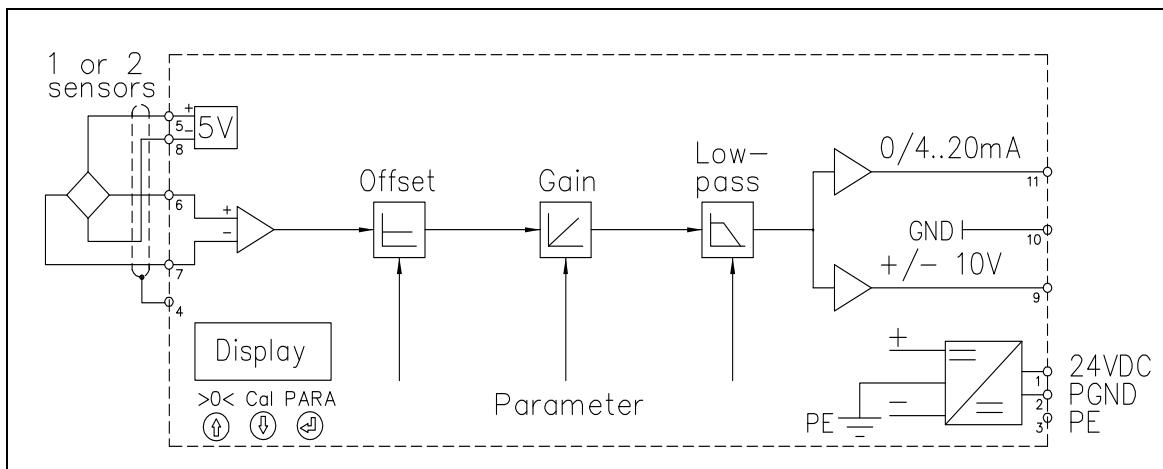

Fig. 1: Block diagram EMGZ 310
2. Wire the Force Measuring Sensor(s) (ref. to **Fig. 1 and 2**)